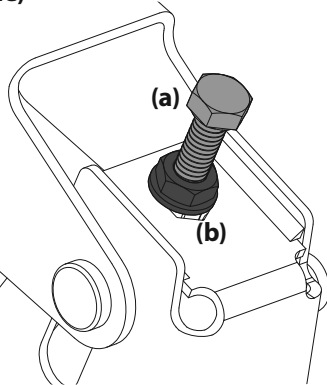

Figure 35
4. Loosen, but do not remove, the jam nuts (b) on the adjustment bolt. Adjust either the right or left adjustment bolt up or down as necessary until the side-to-side heights are equal. See 3. Locate the adjustment bolts (a) on the left and right side of the deck. See 3. Locate the adjustment bolts (a) on the left and right side of the deck. See Figure 35.